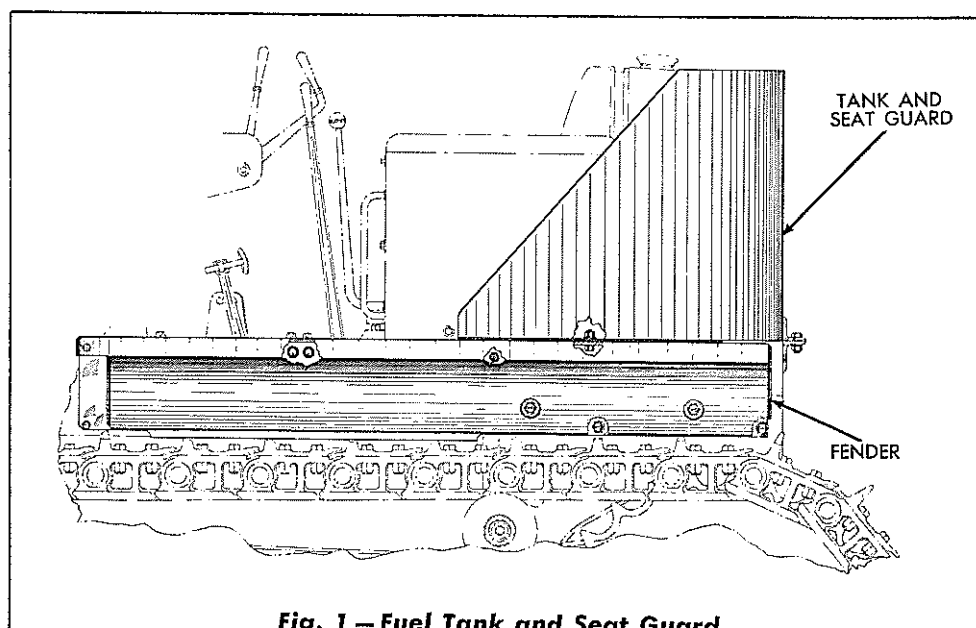

Fig. 1 — Fuel Tank and Seat Guard
Heavy fenders replace the standard rear fenders and serve as mountings for the battery boxes, fuel tank, and seat guard group. Refer to Fig. 1.
equipment) and to the rear of the steering clutch and final drive housing. Refer to Fig. 1.
1. Install the hour meter in the opening provided for its mounting in the right side of the instrument panel. Refer to Fig. 1 in Section VIII.